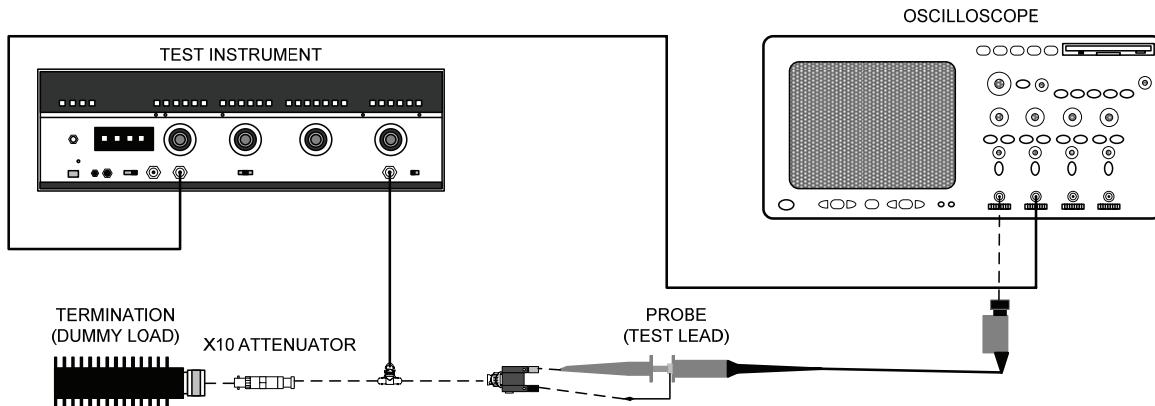

Figure 3. Equipment setup - pulse width and duty cycle.
(1) Connect equipment as shown in figure 3.
(2) Position controls as listed in (a) through (j) below.